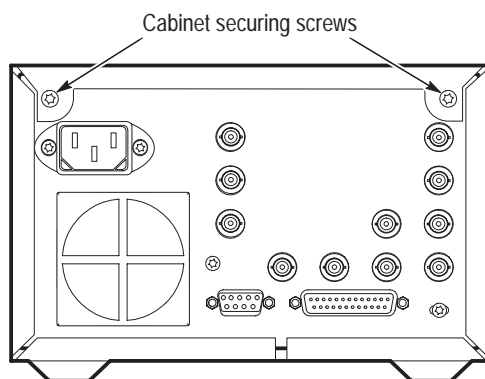

Figure 2: Removing the case from the waveform monitor
2. Remove the two TORX T15 screws shown in Figure 2.